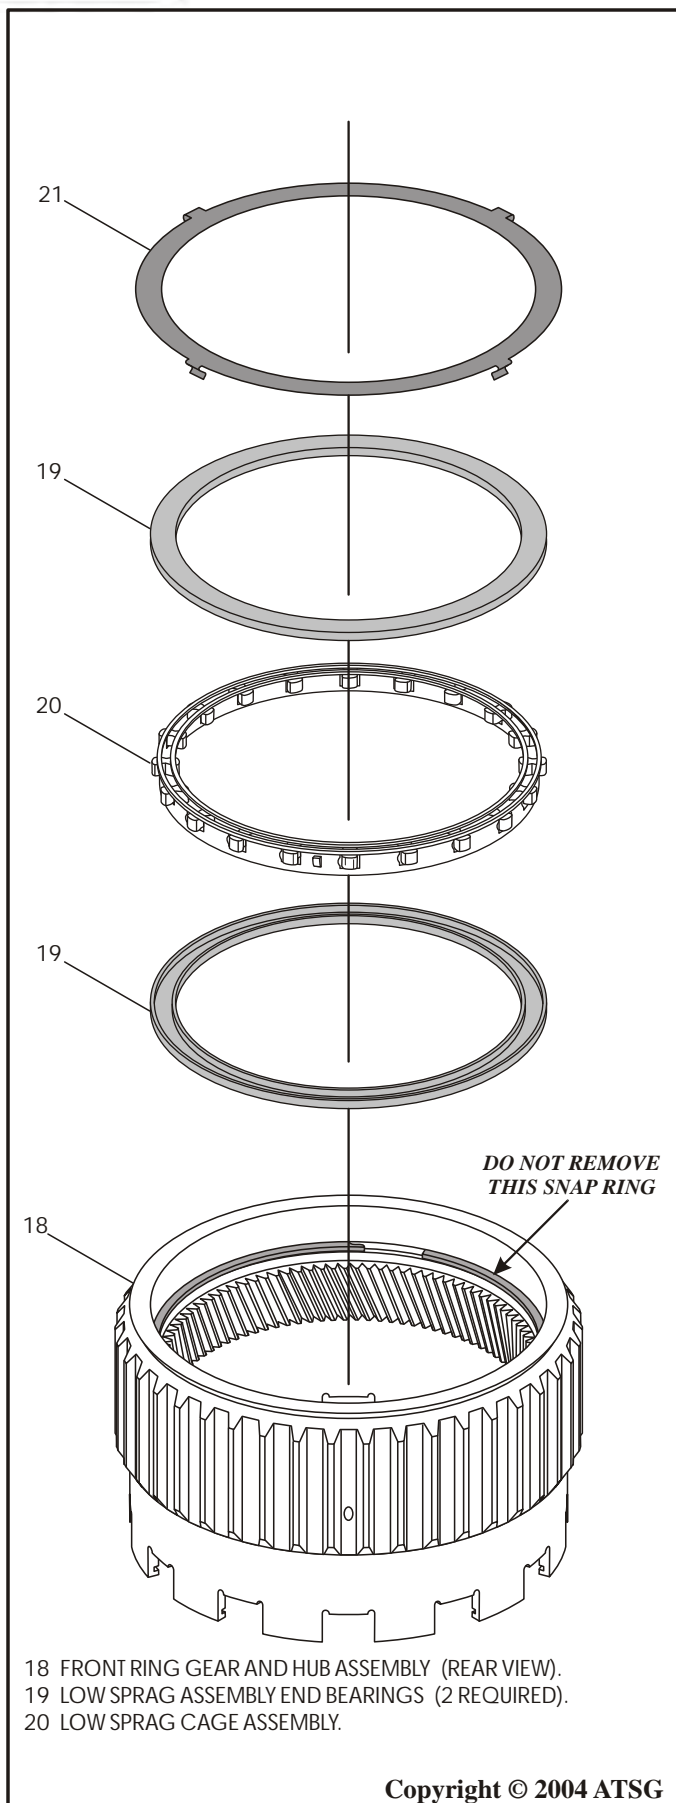

Figure 91
4. Position front ring gear and hub assembly on flat work surface, as shown in Figure 91.
Note: Notice in Figure 90 & Figure 91 that snap ring does not need to be removed.
5. Install low sprag end bearing in the direction shown in Figure 91, down against snap ring.
7. Install the second low sprag end bearing into ring gear with flat side facing up, as shown in Figure 91.
8. Install the low sprag retainer onto the ring gear, as shown in Figure 91, by snapping onto the ring gear and ensure that it is fully seated, as shown in Figure 93.